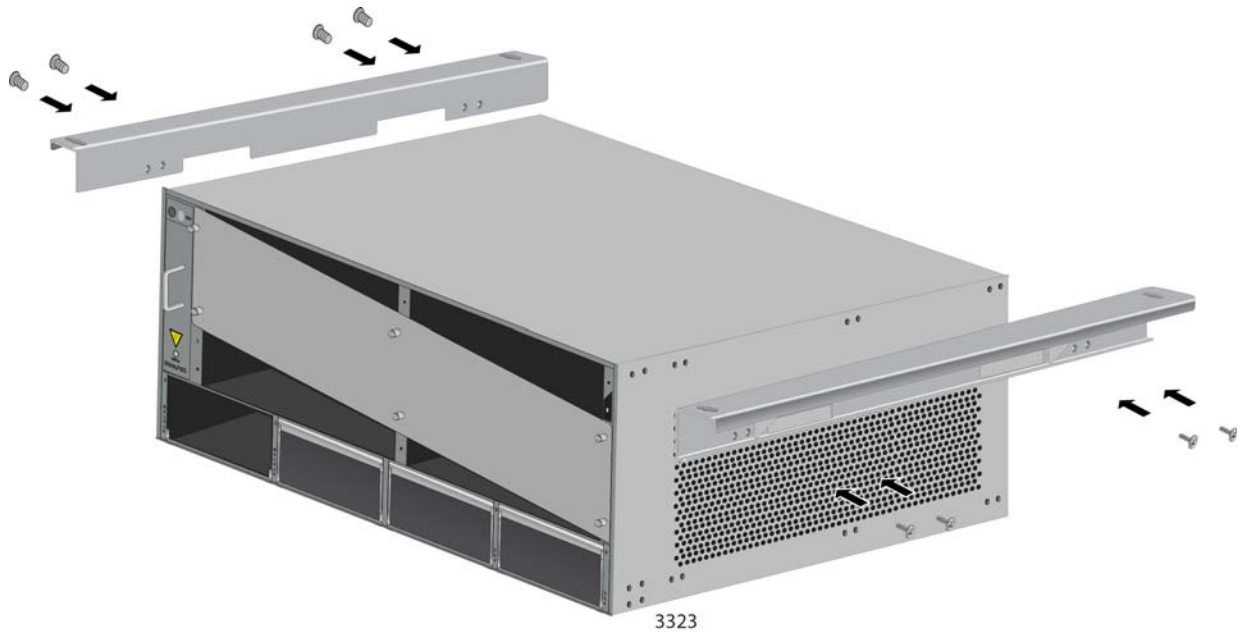

Figure 16. Attaching the Wall Mounting Brackets to the Chassis
3. With a #2 Phillips-head screwdriver, attach the wall mounting brackets to the sides on the chassis. Each bracket should be attached with four screws. The screws come with the brackets. Refer to Figure 16 on page 34.